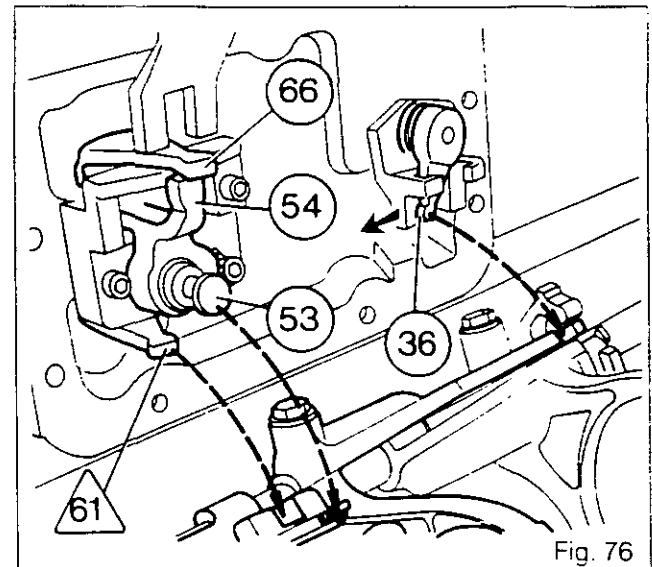

Fig. 76
250. Lock the control shaft (53) in position B with lugs (66) and (54) lined up (Fig. 76) using tool 3615053 M01 (Fig.74) (tighten but not fully).
252. Move the gear lever to the left (into 1st) (36) (Fig. 76).
254. Assemble the cover on the gearbox by engaging the lugs (54) and (66) in the reverse shuttle selector and the lug /61\ into the A/B fork, then engage the lug (36) into the 1st and 2nd gear fork and the mechanical lock (Fig.76).